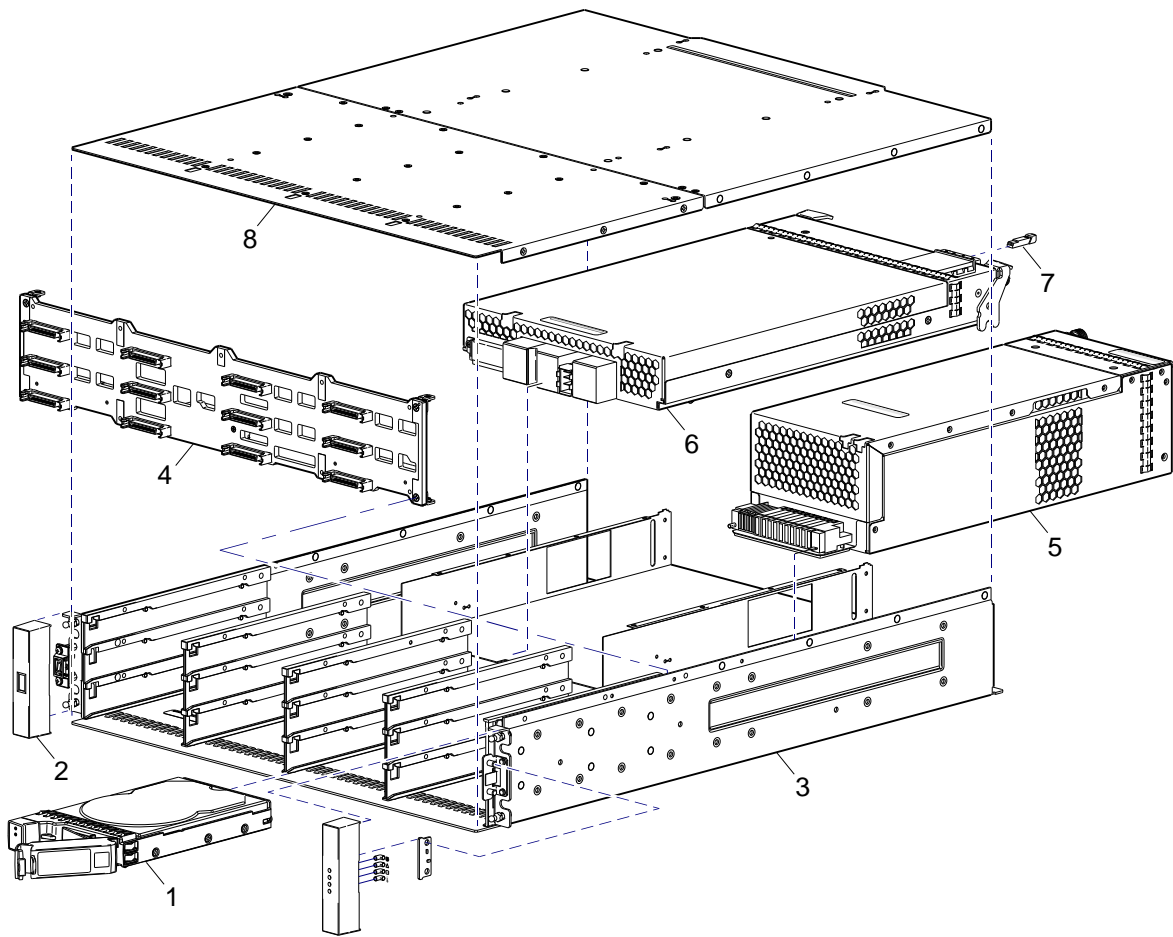
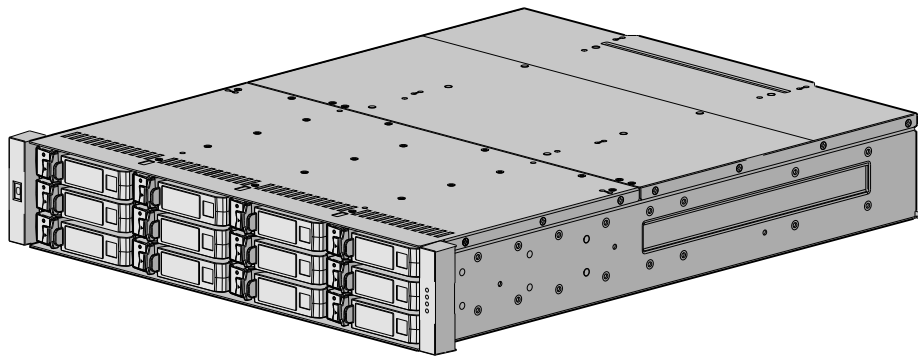
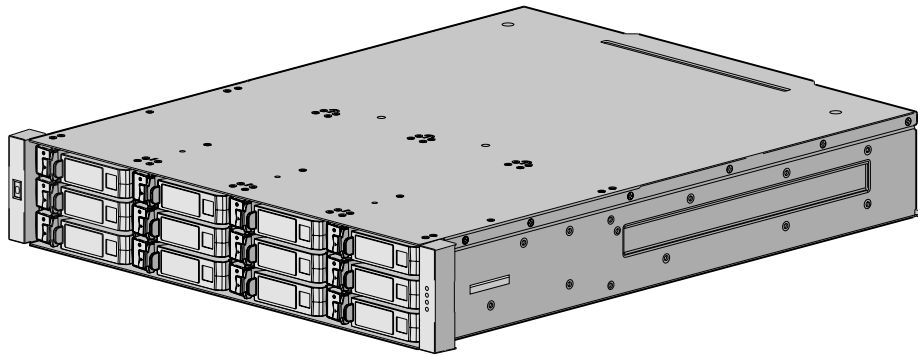
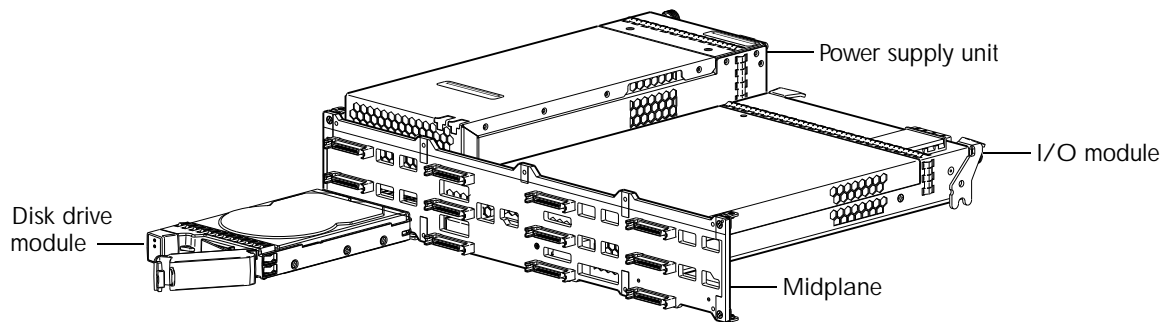

Figure 9 Controller enclosure exploded view (standard-depth 2U12)
Figure 10 Controller enclosure assembly (legacy standard-depth 2U12)
Figure 11 Controller enclosure assembly (standard-depth 2U12)
Figure 12 Controller enclosure architecture — internal components sub-assembly (standard-depth 2U12)
- Exploded view — Figure 9 on page 22
- Assembly views — Figure 10 on page 22 and Figure 11 on page 23
- Internal components sub-assembly — Figure 12 on page 23
Figure 9 (above) and Figures 10 through 12 (below) illustrate 12-drive enclosure models. Figure 10 is an assembled view of Figure 9, whereas Figure 11 shows a newer 2U12 chassis assembly. Figure 12 shows assembly of component FRUs within the enclosure.